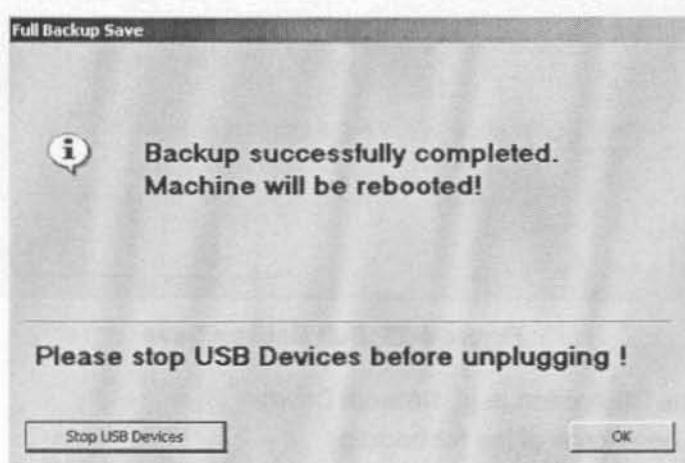

Figure 4-30 Please stop USB Devices before unplugging!
**NOTICE** When the backup is saved to an external USB-device, the system has to be informed about the removal of the hardware. For this purpose every last dialog of "Full Backup Save" and "Full Backup Delete" has a **STOP USB DEVICES** button (see: Figure 4-30).